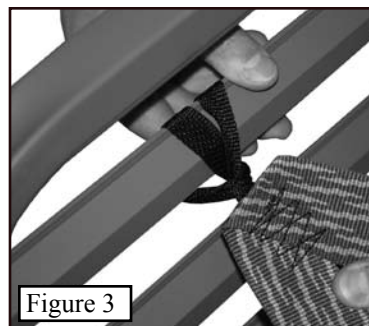
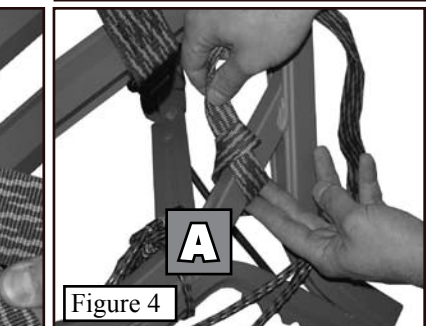
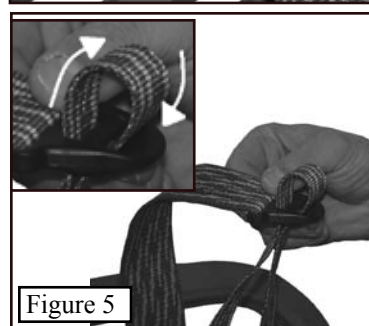
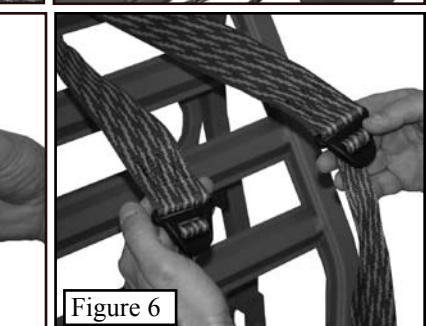

Figure 3
Figure 4
Figure 5
Figure 6
Backpack Straps. The backpack straps consist of three parts - two 1” wide straps each with sewn in loop and a 2” wide strap with buckles and a loop sewn in. Place the looped end on the 2” wide strap around the middle of the second platform rung from the front of the stand as shown in **Figure 2**. Push all of the remaining 2” strap through the loop as shown in **Figure 3**. Place the looped end of the 1” wide strap around the stand tubing (A) and bring the loose end back through the loop as shown in **Figure 4**. Repeat for other side. Thread the loose end of each 1” strap through the buckle on the 2” strap as shown in **Figure 5**. The completed assembly should look like **Figure 6**.